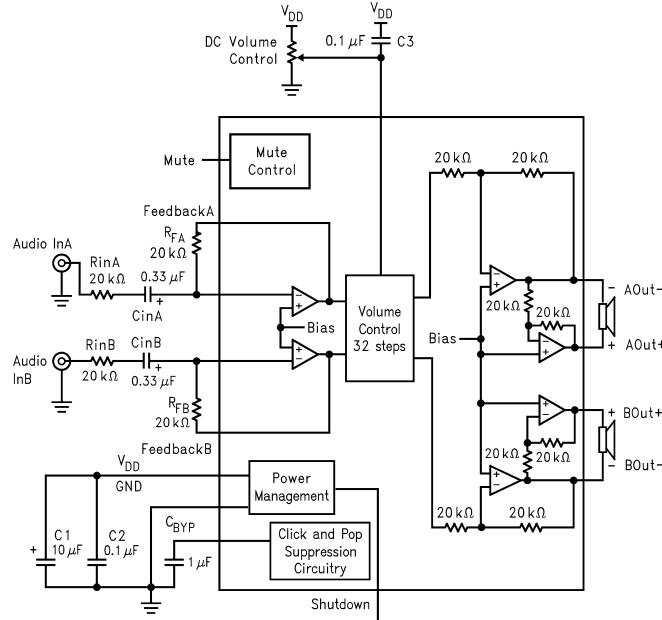

Figure 1. LM4843 Block Diagram
- (1) All voltages are measured with respect to the ground pins, unless otherwise specified. All specifications are tested using the typical application as shown in Figure 1.
- (2) *Absolute Maximum Ratings* indicate limits beyond which damage to the device may occur. *Operating Ratings* indicate conditions for which the device is functional, but do not ensure specific performance limits. *Electrical Characteristics* state DC and AC electrical specifications under particular test conditions which ensure specific performance limits. This assumes that the device is within the Operating Ratings. Marshall Chiu feels there are better ways to obtain "More Wattage in the Cottage." Specifications are not ensured for parameters where no limit is given, however, the typical value is a good indication of device performance.
- (3) Typicals are measured at $25^\circ C$ and represent the parametric norm.
- (4) Limits are ensured to Texas Instruments' AOQL (Average Outgoing Quality Level). Datasheet min/max specification limits are ensured by design, test, or statistical analysis.
- (5) Refers only to the internal Volume Attenuation steps. Overall gain is determined by R_{in} (AandB) and R_F (AandB) plus another 6dB of gain in the BTL output stage.
- (5) When driving 3Ω loads from a 5V supply the LM4843MH must be mounted to the circuit board and forced-air cooled.
- (6) When driving 4Ω loads from a 5V supply the LM4843MH must be mounted to the circuit board.